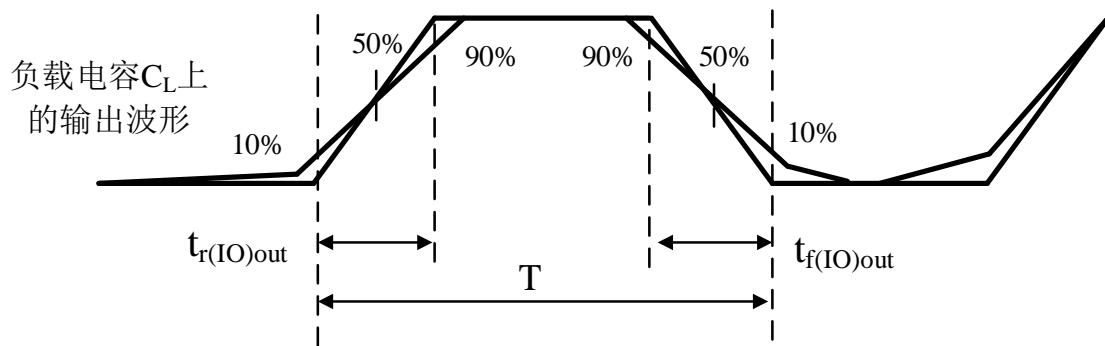

Figure3 -6 I/O AC characteristic definition
1. The maximum frequency is at Figure3 -6 Defined in.